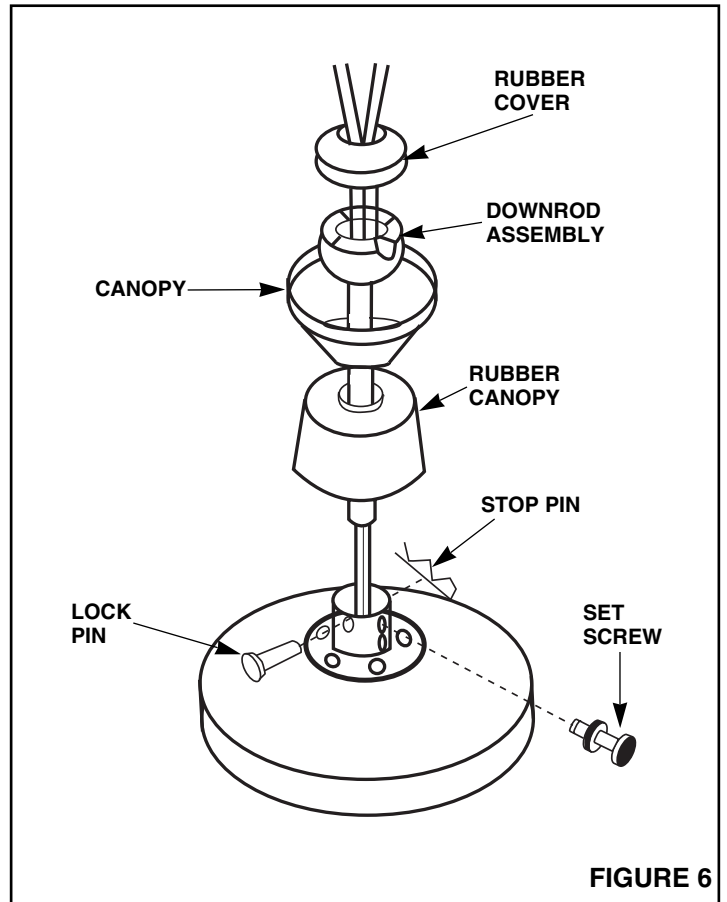

FIGURE 6
- Refer to Figure 6.** To install the ball and stem assembly to the fan, feed the wires from the fan through the rubber canopy, the ceiling canopy and down rod.
- Refer to Figure 6.** Run wires from fan through rubber cover. Lift fan and place ball hanger into socket of socket hanger. Rotate fan until groove in ball locks with tab in socket.
2. Refer To Figure 6. Using two motor screws and washers provided, secure blade to fan flywheel Repeat for remaining blades.